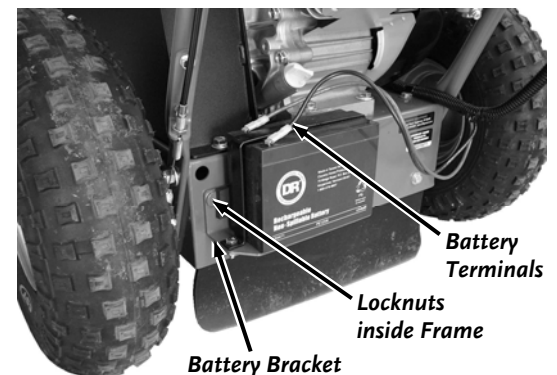

Figure 34
13. For Electric Start machines you will first need to disconnect the Battery Terminals and remove the Battery Bracket by removing the two Locknuts from the Bracket Studs with a 1/2" Wrench (leave Battery attached to Bracket) (**Figure 34**).